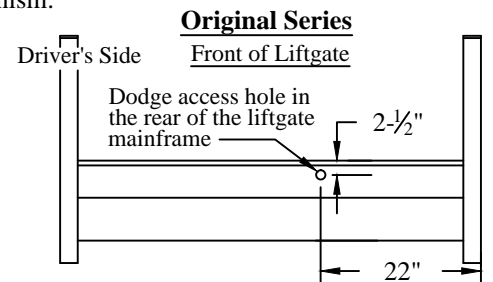

Figure 18: Original Series spare tire access.
2. **Remove** the black plastic plug from the mainframe in the location shown (Figure 18).